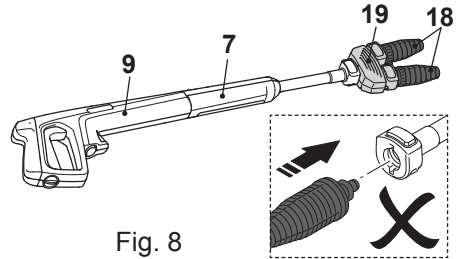

Fig. 8
1. Attach the extension lance (7) onto the spray gun (9) (Fig. 8).
2. Attach the rotary nozzle adaptor (19) onto the extension lance.
3. Attach both rotary nozzles (18) onto the rotary nozzle adaptor.